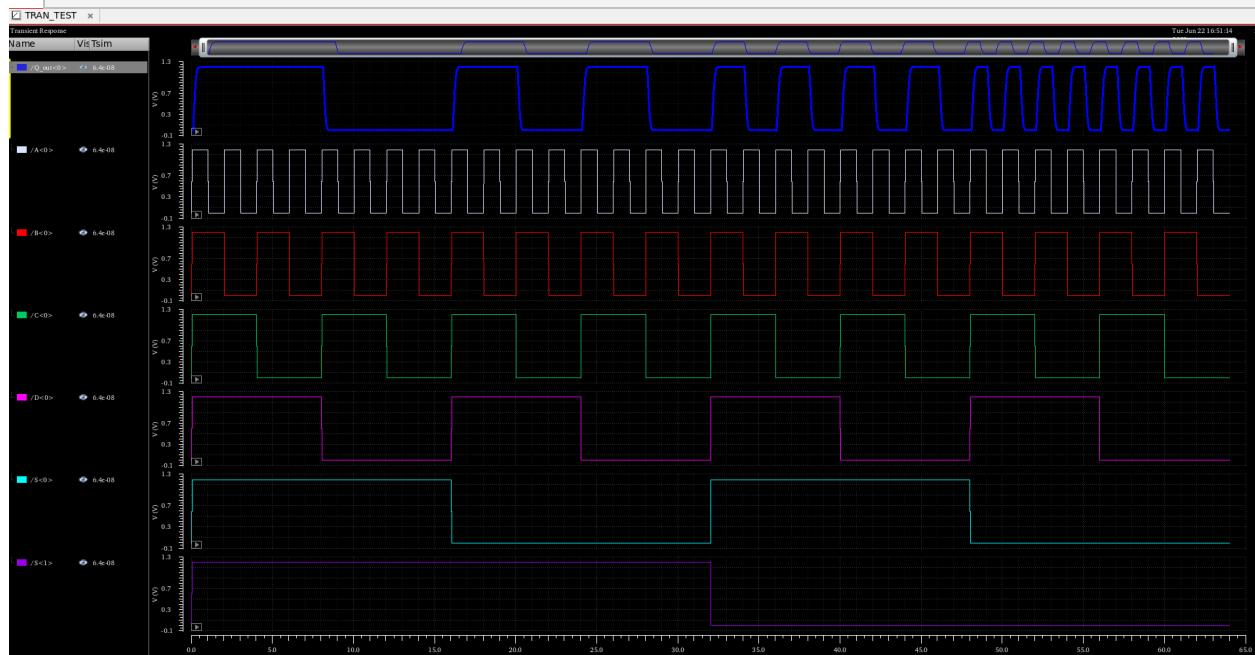

Figure 4 – Transient Test Output Waveforms
- ✓ Two tabs are available: DC-test tab, and the transient test tab (Figures 4 and 5).